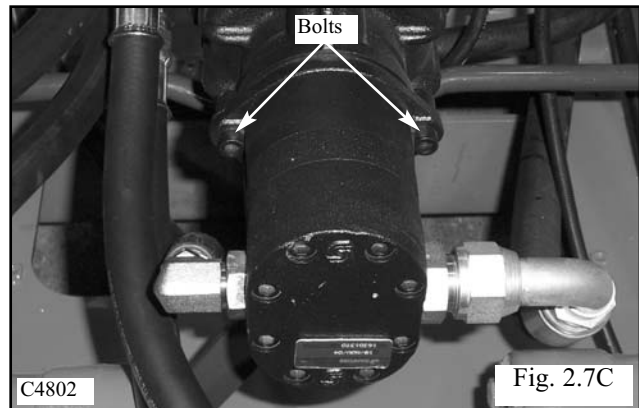

Fig. 2.7C
- 4 Remove the 2 bolts holding the gear pump to the hydrostatic tandem section. (Fig. 2.7C) Remove the gear pump unit.